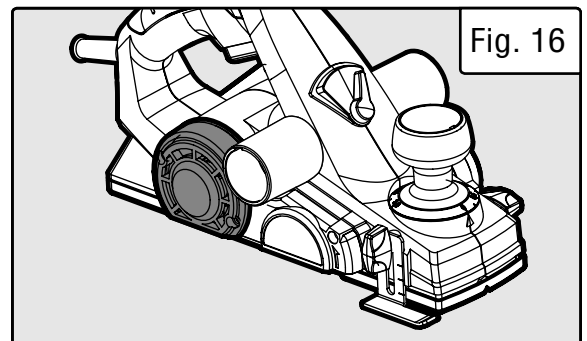

Fig. 16
1. Unscrew and open the motor cover on the right (Fig. 16).